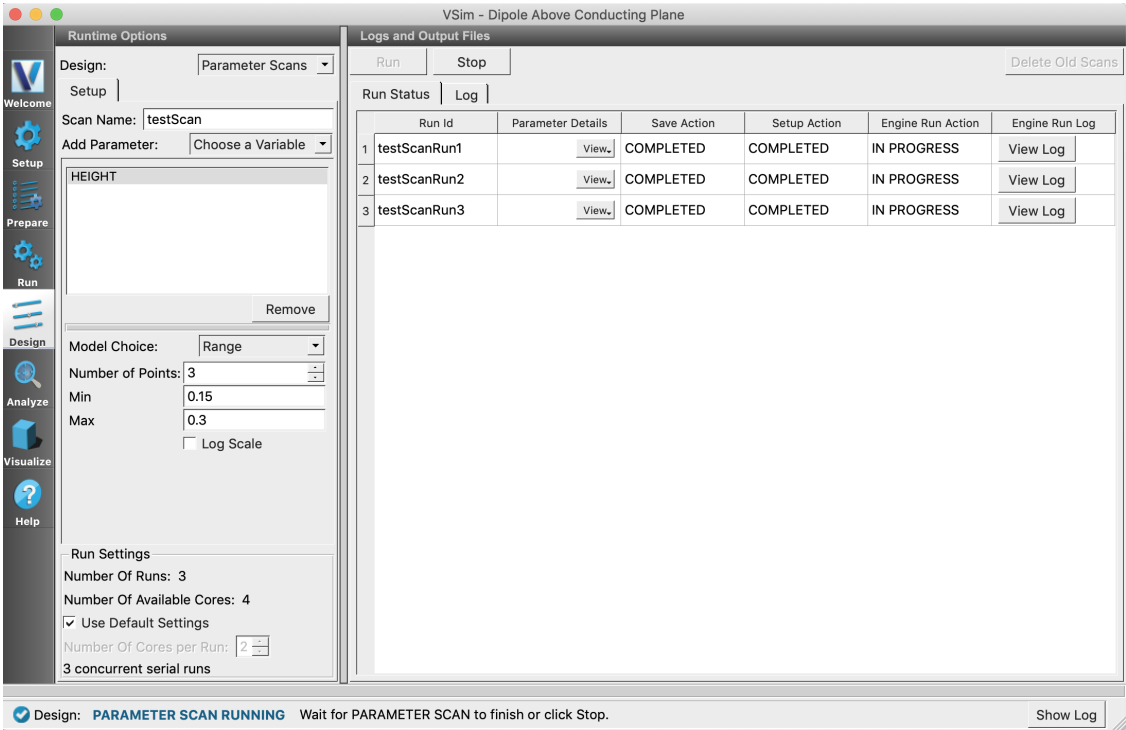

Fig. 12.8: Run Status Table
- **Run Status Tab** : This tab consists of a table that tracks the status of every step of each **sub simulation**. See Fig. 12.8. There are seven columns by default.